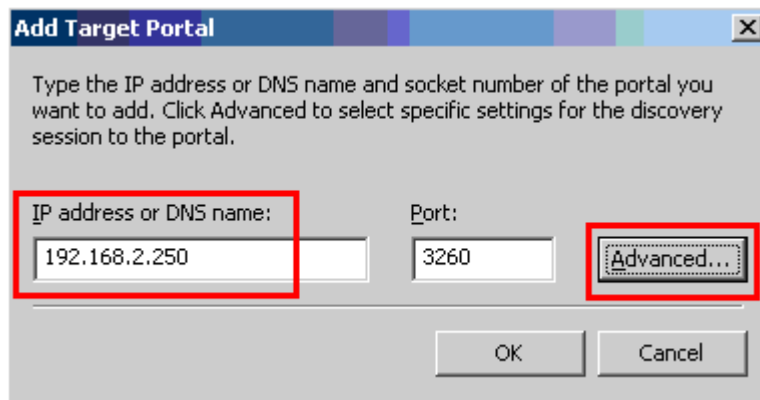

Figure 10-10. Add Target Portal Dialog Box
5. On the Add Target Portal dialog box (Figure 10-10), type the IP address of the target, and then click **Advanced**.